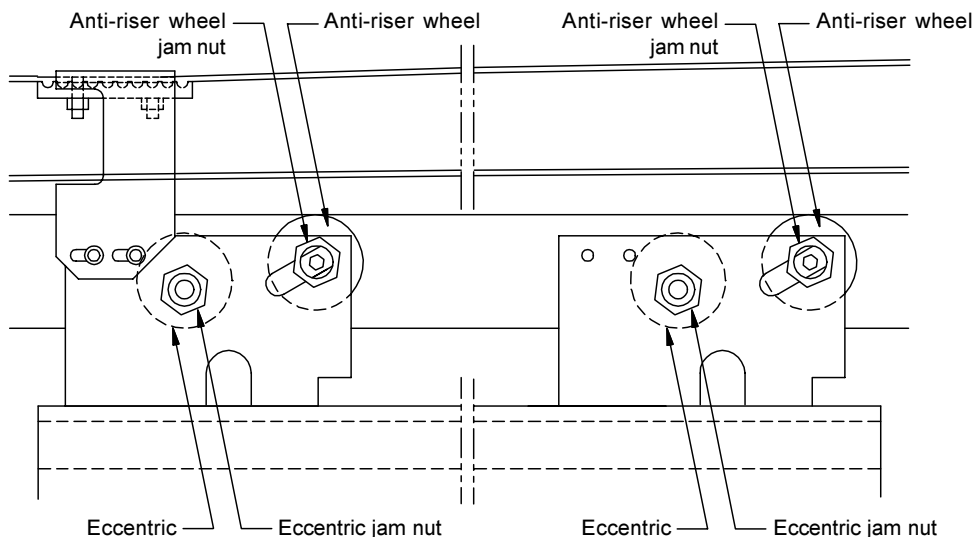

Figure 25. Adjust Anti-Riser Wheel Clearance
- 8.1. Use a 15/16" wrench to loosen jam nuts on eccentrics and anti-riser wheels (**Figure 25**).